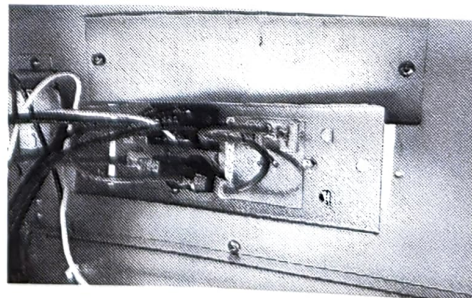

Fig. 3 - Heater insertion.
5. Position and slide heater assembly into blower section (see fig. 3) through the access opening (mounting position is important, check the label "AIR FLOW" on the heater for correct position). Secure heater into place with screws removed from cover plate.